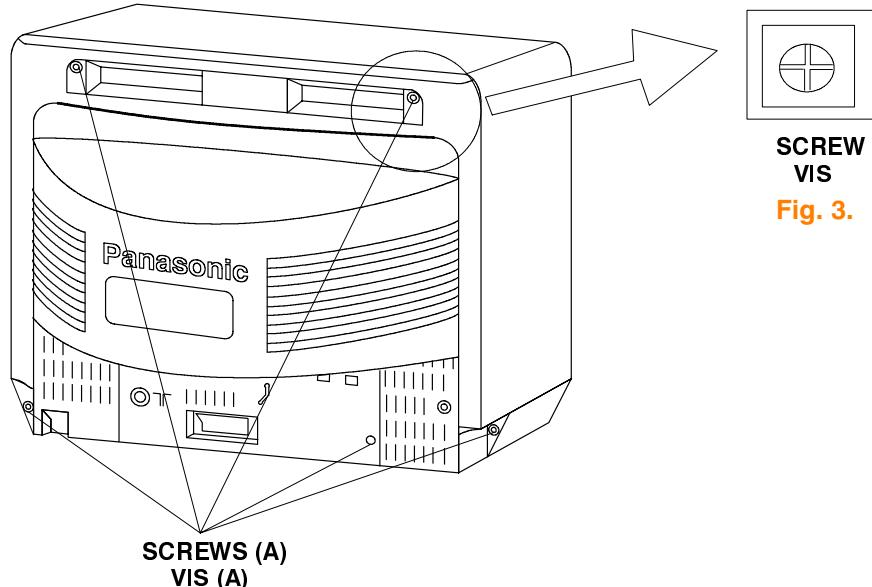

Fig. 2.
1. Remove the 5 screws (A) as shown in **Fig.2/Fig.3.**
1. Retirer les 5 vis (A) comme sur la **Fig.2. / Fig.3.**